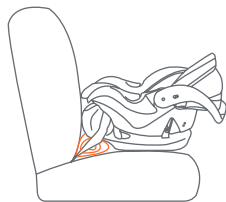

Fig. 47-1
- If seat angle adjuster feature does not adjust enough to provide the proper angle of recline, place a rolled towel, or car seat noodle, under the base at the foot end to achieve the correct position (Fig. 47-1 and 7.5, **Pool Noodle or Towel Use**).